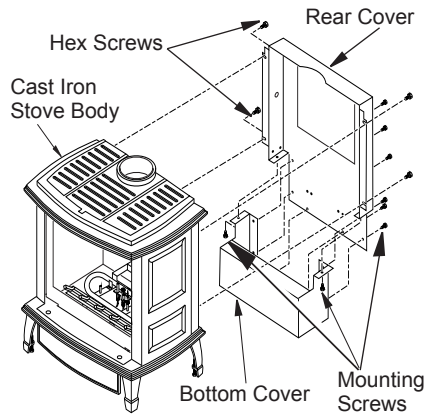

Figure 22 - Attaching Rear Cover and Bottom Cover from Stove Body
2. Using hex screws provided, attach rear cover to back of stove body. See Figure 22, page 17. **IMPORTANT:** This rear cover must be securely in place before venting pipes are installed.